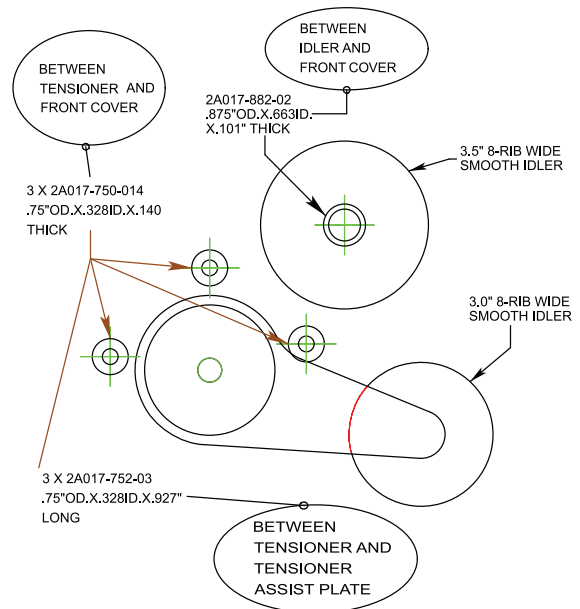

Fig. 6.1-C1 (optional)
1. Remove the factory idler pulley located just above the spring tensioner location. Replace with the supplied 3.5" idler (4FU016-021) and .875"OD x .663"ID x .101" thick spacer (2A017-882-02) using the factory hardware. (See Fig. 6.1-a.)